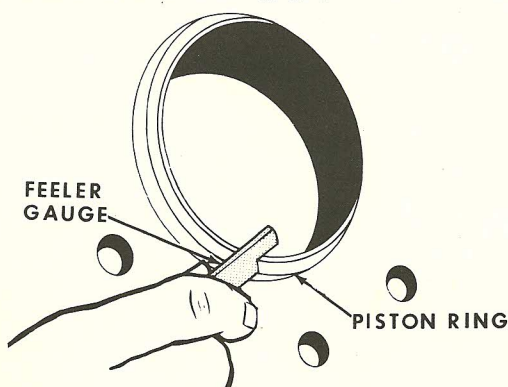

Figure M-31
2. Install each ring $3/4$ " into the cylinder bore and check the ring gap with a feeler gauge, Figure M-31. Refer to Specification Section for correct ring gap.